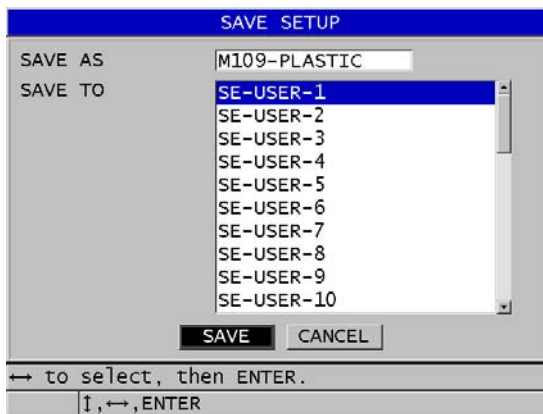

Figure 13-17 Saving custom setups
4. In the **SAVE SETUP** screen (see Figure 13-17 on page 240):